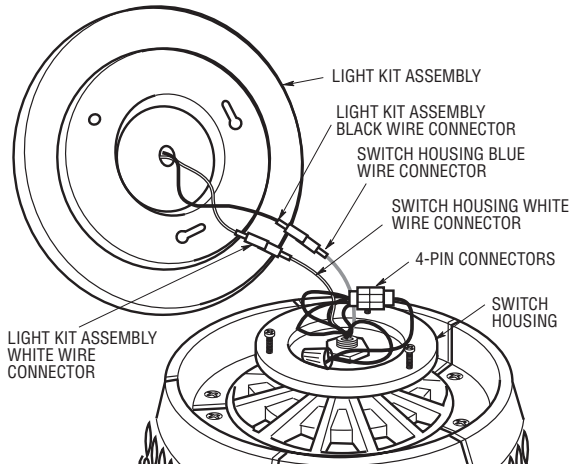

Figure 3
- 7. Connect the 4-pin connector from the decorative light kit assembly to the 4-pin connector of the switch housing (Figure 3).
- 8. Connect the switch housing blue wire single-pin connector to the black wire single-pin connector from the light kit assembly; connect the switch housing white wire single-pin connector to the white wire single-pin connector from the light kit assembly (Figure 3). Be sure all wire connectors are fully engaged.